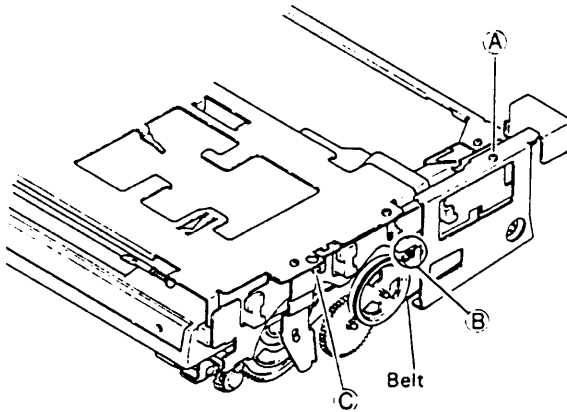

Fig. 1-8-2
- 1) Engage left and right holding levers (F) and (G) with slots (H). Secure only the left holding lever with the washer.
- 2) Install the upper plate assembly with 4 screws (E).
- 3) Engage spring (Fig. 1-8-2 (B), 1-8-3 (E)).